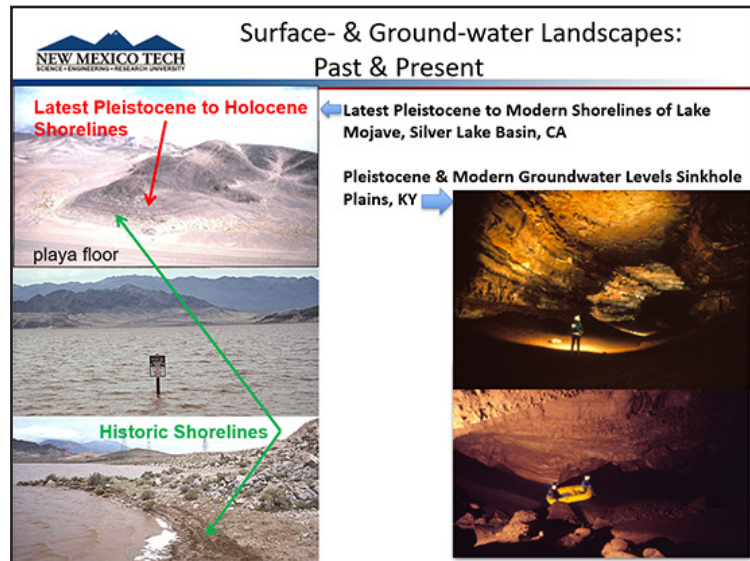

Figure 1. Landscapes resulting from variations in hydrologic-cycle from modern times through the geologic past.
Research projects conducted by my former students, colleagues, and me in the Mojave Desert of Southern California have elucidated how variations in the hydrologic cycle are driven by weather and climatic patterns related to sea surface pressure anomalies in the Pacific Ocean and related atmospheric circulation patterns. Variations over the past 8,000 years in these patterns have produced ephemeral lakes at the terminus of the Mojave River that lasted from months to perhaps a century (Figure 1). Such ephemeral lakes and significantly larger and longer-standing late Pleistocene lakes (18,000 to 10,000 years ago) are recorded in a series of abandoned shorelines and basin deposits (Figure 1).
Figure 1 also illustrates the type of groundwater landscapes that I researched during my master's degree in the Central Kentucky Karst region; these landscapes allow one to walk through modern, active aquifers (cave systems) and those ancient (inactive) cave systems that existed hundreds of thousand years ago. Research in these landscapes demonstrates the variations in groundwater levels over geologic time, and consequently, types of large-scale changes in flow direction and groundwater-basin boundaries that can occur during such changes. Both examples, surface and groundwater, illustrate (1) how variations in hydrologic systems can be recorded in different types of landscapes over different time scales, and (2) how geologists can use such landscapes to infer the nature of global scale changes in climate that drive such changes.
The Mojave River basin provided the opportunity to examine both modern and ancient lakes through a series of shorelines that have been preserved over the past 18,000+ years (Figs. 1 and 3). In addition, the terminal basins of the Mojave River are flooded in the present day, producing ephemeral lakes in response to dramatic runoff sourced in the San Bernardino Mountains. Silver and Soda Lake basins are located in one of the most arid regions in North America, only receiving four inches of average precipitation. Such a study environment allows one to ask questions such as, what does it take to produce a large lake that will overflow to Death Valley, under what conditions are lakes being formed today, and what can we learn from the modern lakes that might help us understand the lakes that existed thousands of years ago?